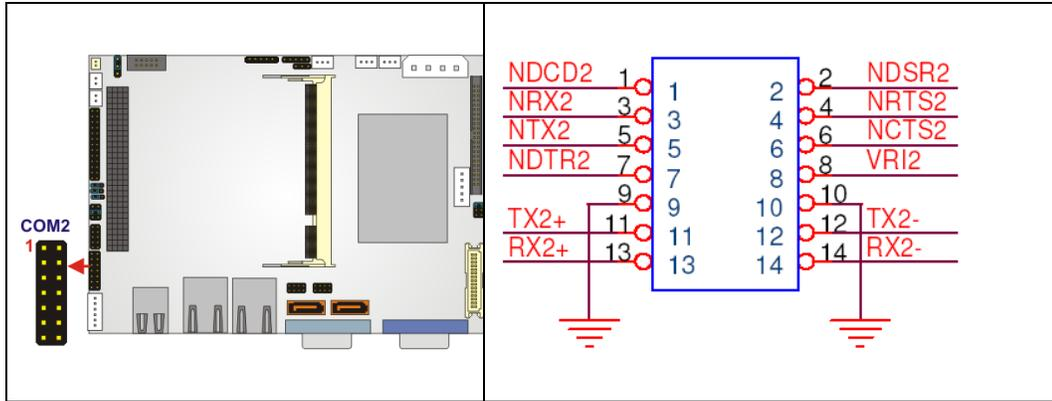

Figure 3-19: RS-232/422/485 Serial Port Connector Location
- CN Location:** See **Figure 3-19**